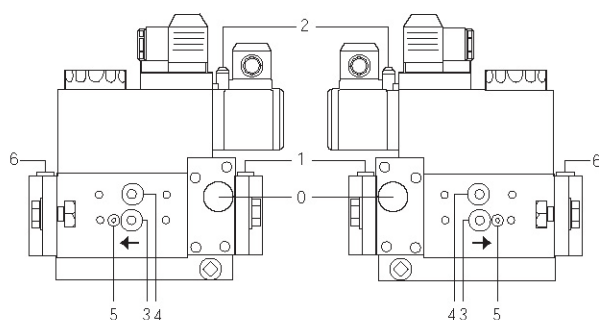
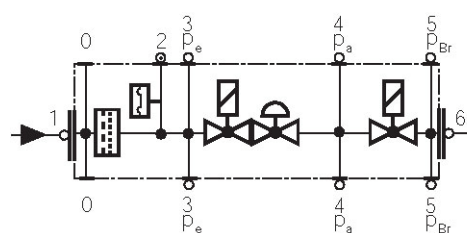

Fig. 40
Fig. 41
- Clean and examining the gas filter cartridge, if necessary replace it (Fig. 40 on).
- Change the filter if the pressure difference between pressure connection 1 and 3 (Fig. 40-Fig. 41) is $\Delta p > 10$ mbar.
- Change the filter if the pressure difference between pressure connection 1 and 3 (Fig. 40-Fig. 41) is twice as high compared to the last check.